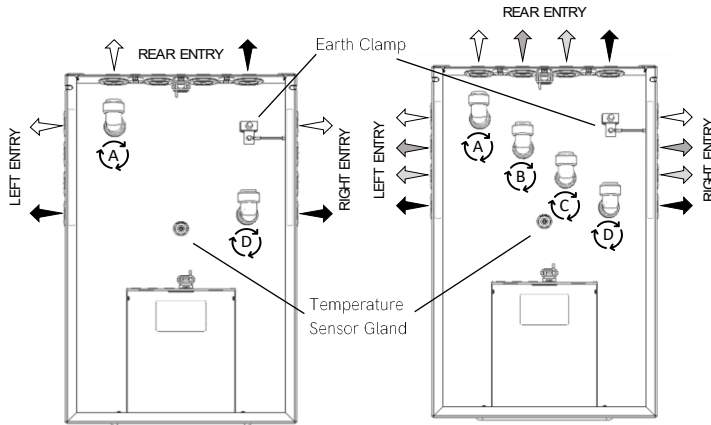

Figure 6 - Thermino ePlus Ports (70-210 left, 300 right)
- Rotate the elbows to the side you wish to connect the hydraulics (left, right or back) (Figure 6).
- For Thermino 70, 150 & 210 ePlus products, the cold water inlet must be connected to Port A & the hot water outlet to Port D (Figure 6, left hand side).
- For Thermino 300 ePlus products, the cold water inlet must be branched into Ports A & B and the hot water outlet branched into Ports C & D (Figure 6, right hand side).